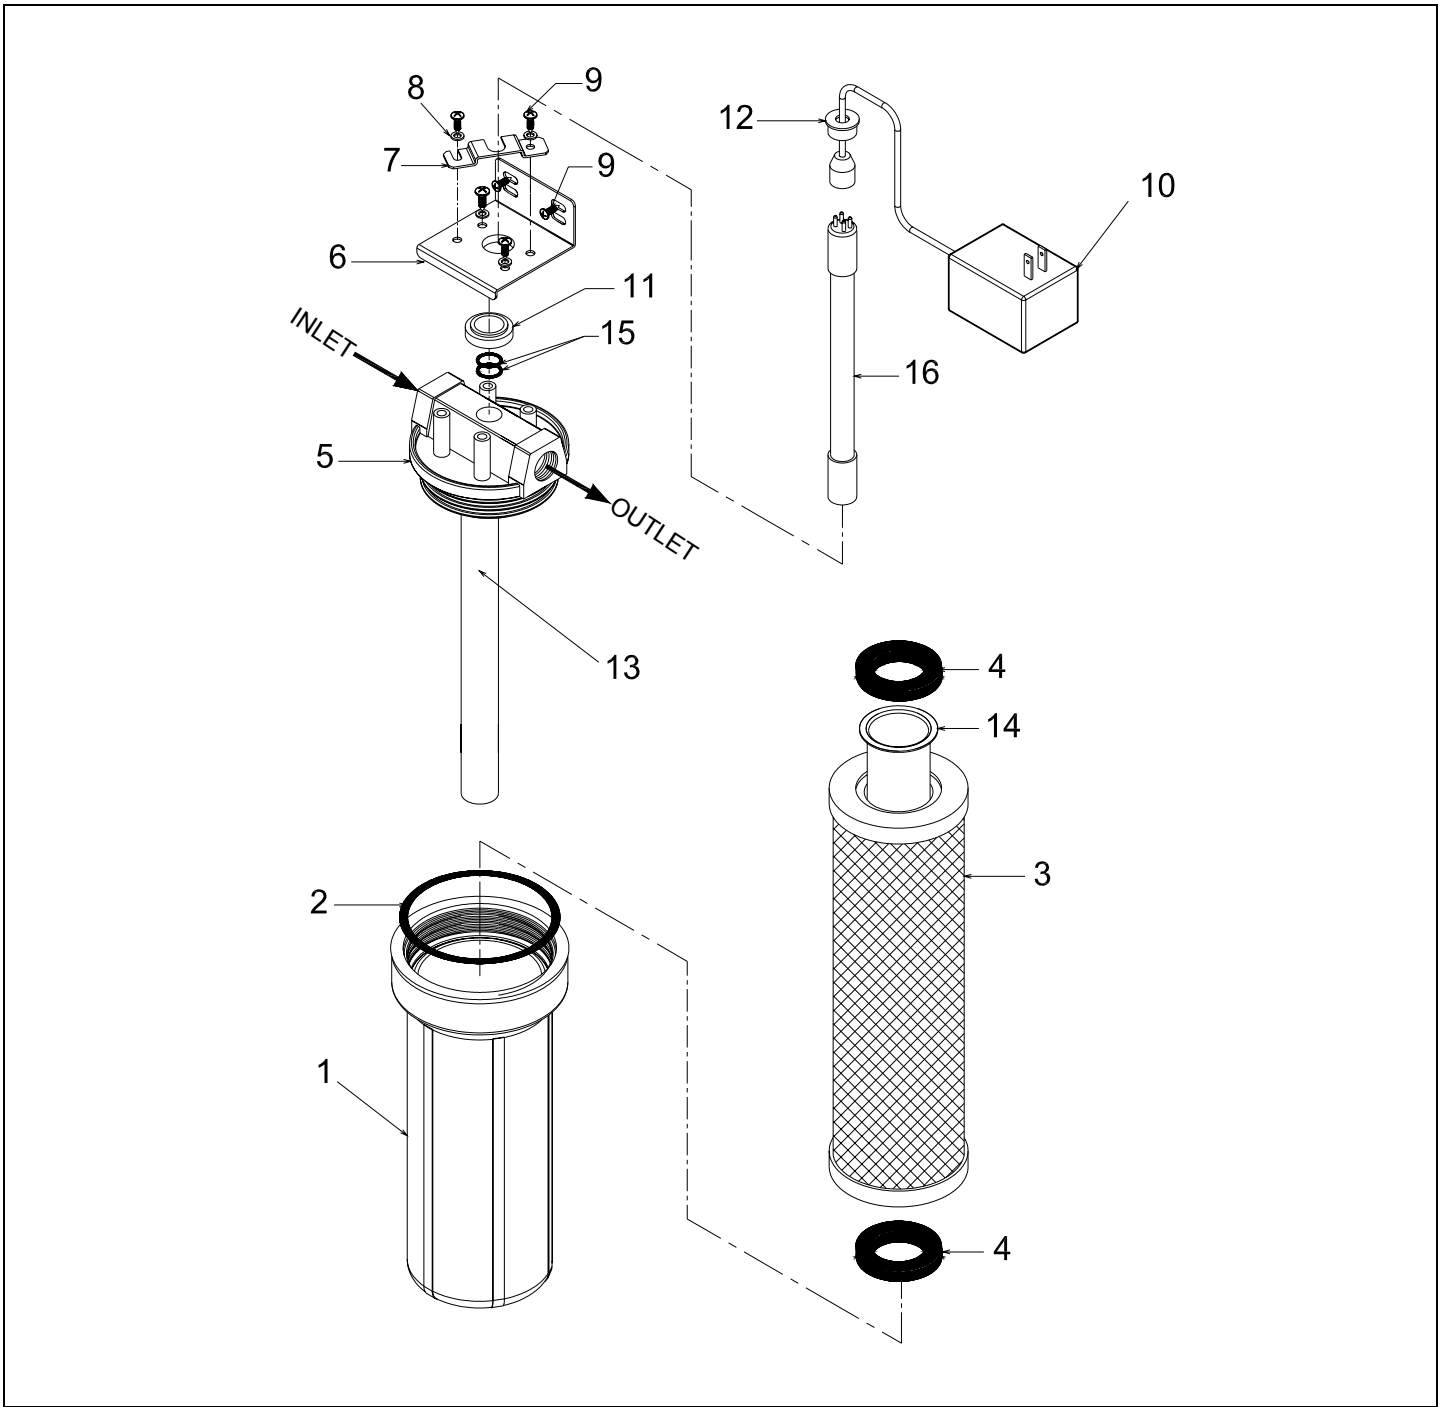

Figure 7 Exploded Schematic, PURA UV1Series
NOTE: All Item callouts refer to Figure 7.
2. Install EPCB™ Sleeve (Item 14) into EPCB™ Carbon Filter (Item 3) as shown in Figure 7.
3. Insert filter/sleeve assembly into sump as shown in Figure 7 with both Filter Gaskets (Item 4) in place.
CAUTION: Verify that inlet and outlet ports are connected to appropriate inlet/outlet pipes (see Figure 7).